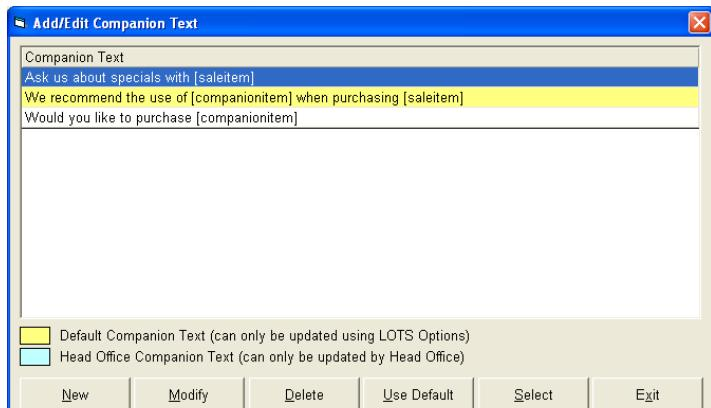

Figure 140
5. This will display the 'Add/Edit Companion Text' window (see Figure 140).
10. To delete a companion text, highlight the text and select 'Delete' (see Figure 140).